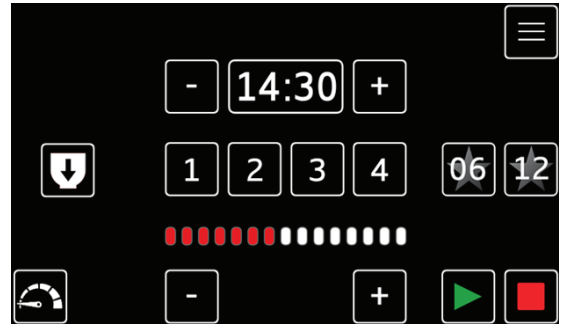

Figure 14-1.
1. Select the main menu button in the top right corner of the display screen to access the recipes, operating log, settings or operating instructions. (Figure 14-1).
1. Select the main menu button (Figure 14-1).